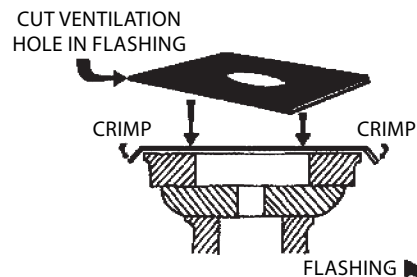

FIGURE 7-6
3. Flash the capital and crimp edges of flashing down. Caulk before positioning it under the soffit (Fig. 7-6).